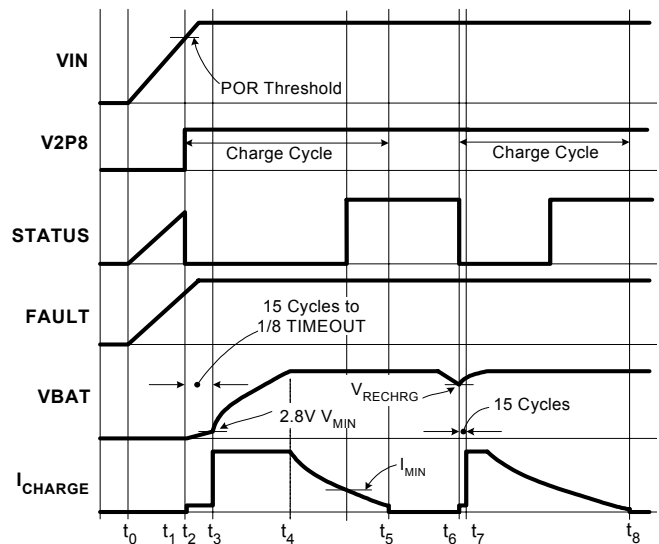

FIGURE 20. OPERATION WAVEFORMS
Figure 20 illustrates the typical signal waveforms for the linear charger from the power-up to a recharge cycle. More detailed Applications Information is given below.
LOW and a HIGH logic signal respectively. Figure 20 illustrates the start up of the charger between  $t_0$  to  $t_2$ .
A charge cycle consists of three charge modes: trickle mode, constant current (CC) mode, and constant voltage (CV) mode. The charge cycle always starts with the trickle mode until the battery voltage stays above  $V_{MIN}$  (2.8V typical) for 15 consecutive cycles of the internal oscillator. If the battery voltage drops below  $V_{MIN}$  during the 15 cycles, the 15-cycle counter is reset and the charger stays in the trickle mode. The charger moves to the CC mode after verifying the battery voltage. As the battery-pack terminal voltage rises to the final charge voltage  $V_{CH}$ , the CV mode begins. The terminal voltage is regulated at the constant  $V_{CH}$  in the CV mode and the charge current is expected to decline. After the charge current drops below  $I_{MIN}$  (1/10 of  $I_{REF}$ , see End-of-Charge Current for more detail), the ISL9203 indicates the end-of-charge (EOC) with the STATUS pin. The charging actually does not terminate until the internal timer completes its length of TIMEOUT in order to bring the battery to its full capacity. Signals in a charge cycle are illustrated in Figure 20 between points  $t_2$  to  $t_5$ .
After a charge cycle completes, charging is prohibited until the battery voltage drops to a recharge threshold,  $V_{RECHRG}$  (see Electrical Specifications). Then a new charge cycle starts at point  $t_6$  and ends at point  $t_8$ , as shown in Figure 20. The safety timer is reset at  $t_6$ .
The trickle mode charge has a time limit of 1/8 TIMEOUT. If the battery voltage does not reach  $V_{MIN}$  within this limit, a TIMEOUT fault is issued and the charger latches up. The charger stays in trickle mode for at least 15 cycles of the internal oscillator and, at most, 1/8 of TIMEOUT, as shown in Figure 20.
The EOC current  $I_{MIN}$  sets the level at which the charger starts to indicate the end of the charge with the STATUS pin, as shown in Figure 20. The charger actually does not terminate charging until the end of the TIMEOUT, as described in the Total Charge Time section. In the ISL9203, the EOC current is internally set to 1/10 of the CC charge current, that is,